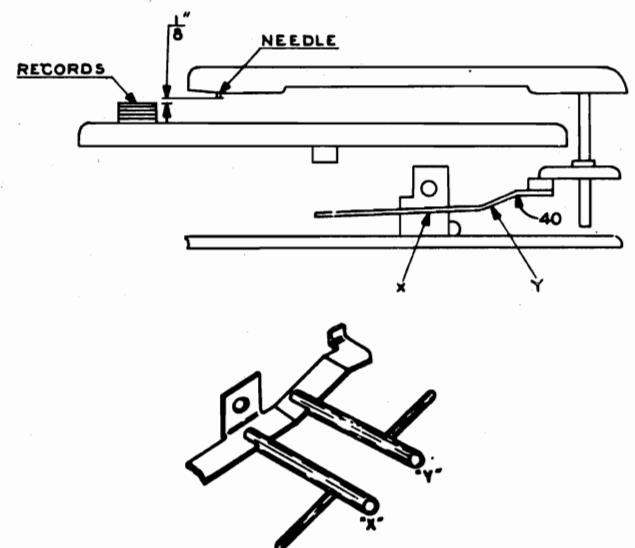

Fig. 4
The vertical movement of the pickup arm is controlled by the angle of the Pickup Arm Raising Lever (40), Fig. 4. The needle should approach the top record of a full stack of 10" records on the turntable with approximately $\frac{1}{8}$ " clearance.
3. Be sure the notch in the Pickup Arm raising disc (34) engages the pickup arm raising lever (40).
4. If the needle does not clear the top record or if it raises too high, adjust by bending the pickup arm raising lever at the point indicated in Fig. 4.